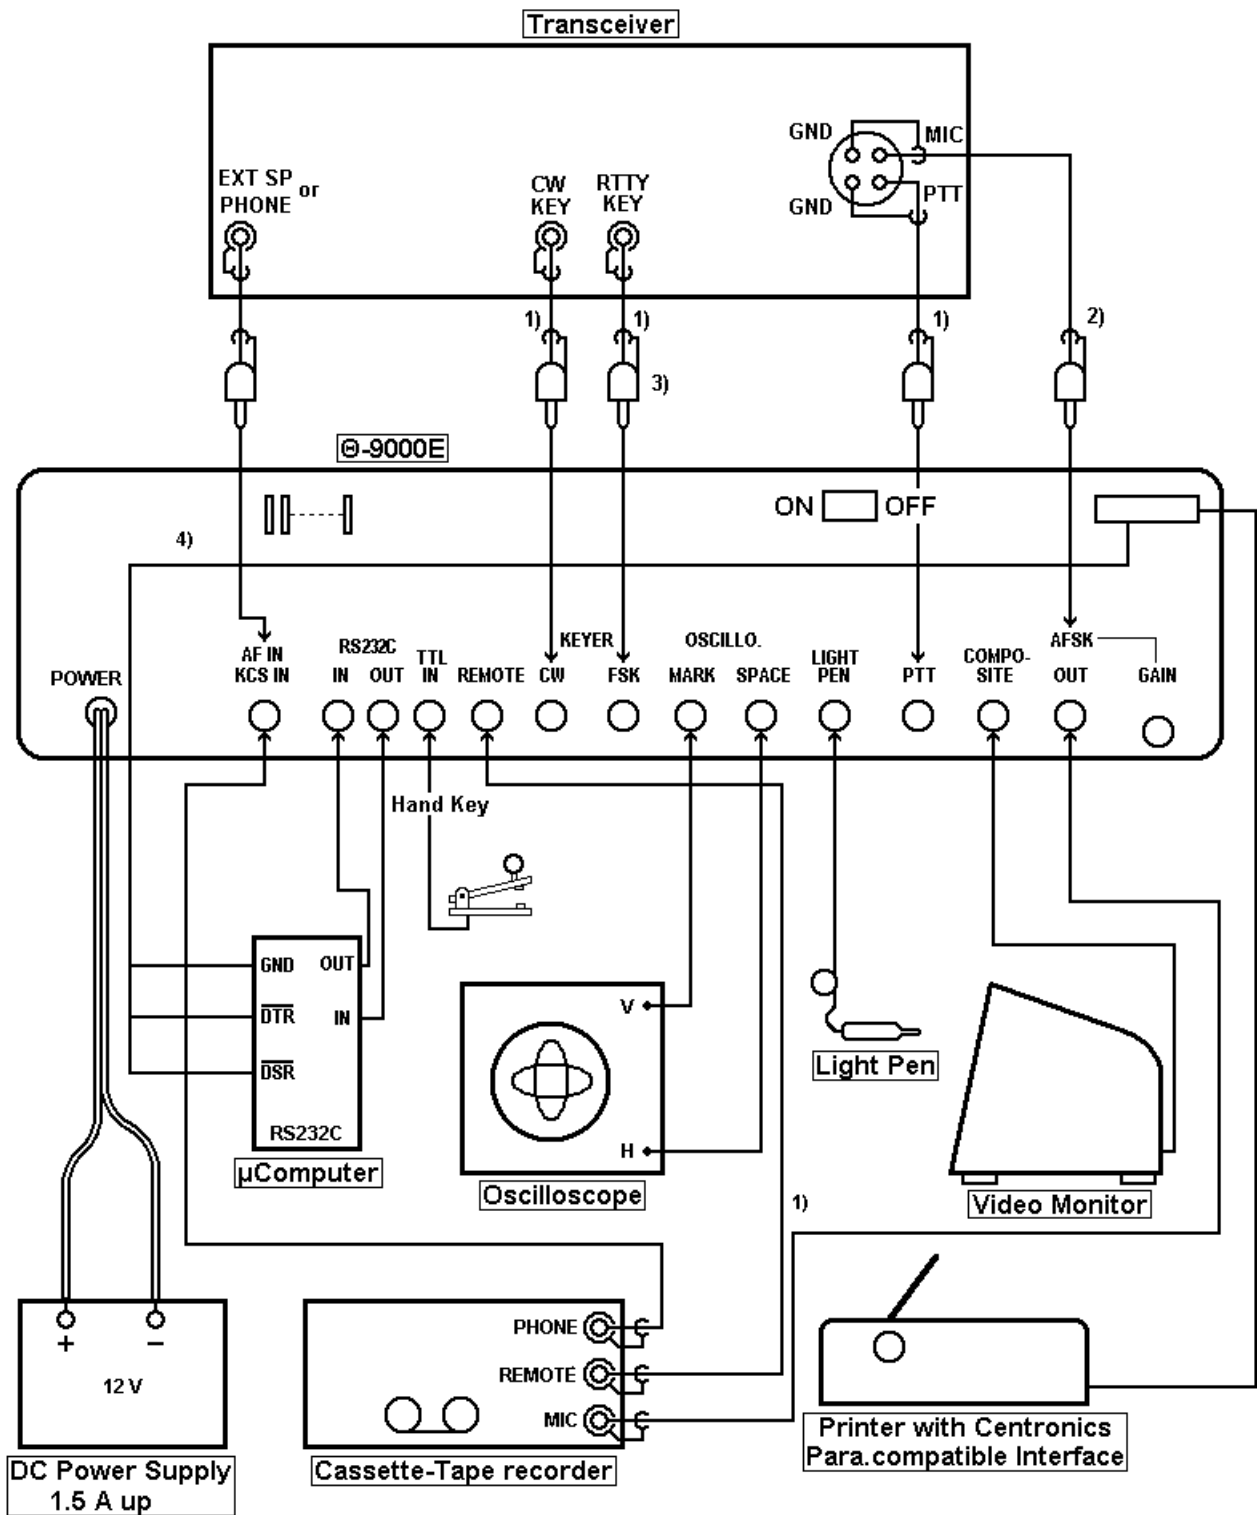

Figure 8 Connections to the peripheral equipment
Adjust the SWR as shown in Table 1 (page 7) to assure normal operation. For connections, refer to FIG. 8
- (1) Connect the hand keys to TTL IN jack as shown in Fig. 8.
- (2) Set to **INPUT=TTL** (refer to 5-1-1 (5)).
- (3) Depress **ESC E** (**FUNC=E** is displayed on the screen).
- (4) When you manipulate the key, a reading and transmission are available at the same time. CW.FSK jack is switched ON or OFF corresponding to the operation of the key. You can transmit by switching the key terminal of transceiver.
- (5) To return to the receive mode, perform **INPUT=AF** following the procedure of 5-1-1 (5).